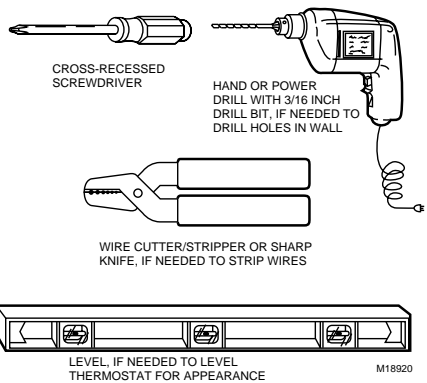

Fig. 1. Required installation tools and supplies.
- ❑ Acquire tool and items as needed. See Fig. 1.